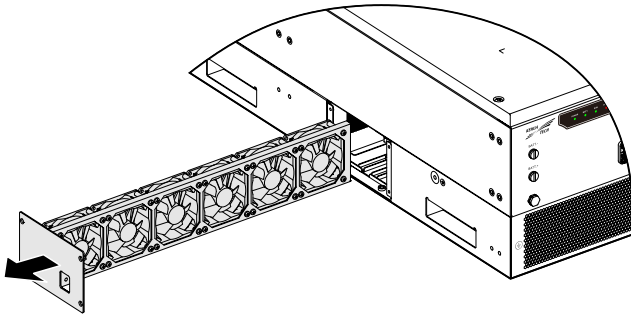

Figure7-22 Pull out fan module
- Step 7 Pull out the fan module (as shown in Figure7-22), clean the fan by brush or cleaner or replace the damaged fan.